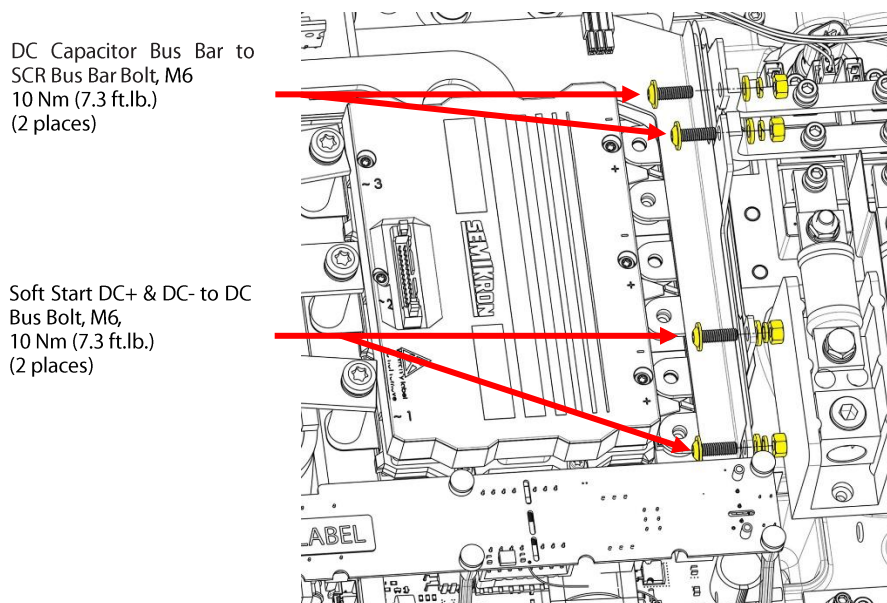

Figure 3 - Install New Fasteners
1. Install the four DC bus bar fasteners shown in Figure 3 - Install New Fasteners. Install the new fastener following the removal of each of the old fasteners. Torque the fastener to 10 Nm. (7.3 ft.lb.).